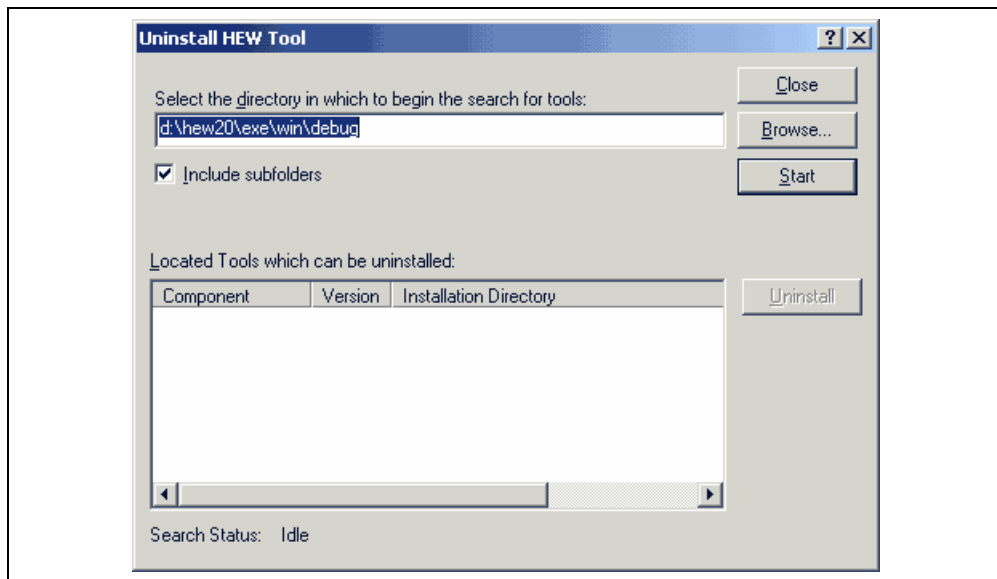

Figure 5.8: Uninstall HEW Tool
2. Click on the uninstaller button. The “Uninstall HEW Tool” dialog is invoked (figure 5.8).